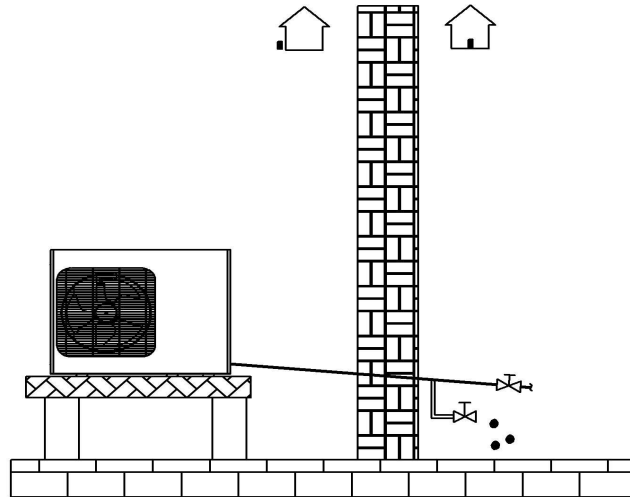

Figure 6-5
1. If domestic hot water tank (supplied on site) during installation, refer to the Installation and Owner's Manual. If there is no ethylene glycol (antifreeze) in the system or a power failure or pump fault, drain the system (As shown in Figure 6-5 below).